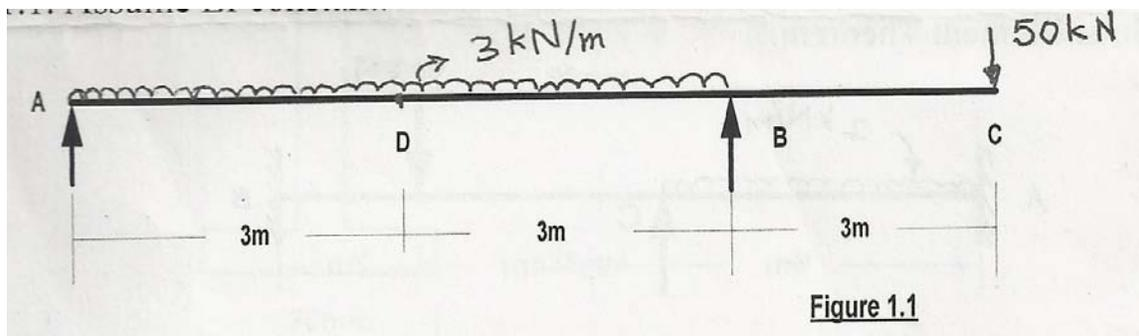

Figure 1.1
Q. No. 1 a) Explain relation between actual beam and conjugate beam. (4)
b) A simply supported beam of span 3 m is carrying a uniformly distributed load 10 kN/m. Find the values of maximum slope and deflation of the beam. Take modulus of rigidity of the beam as $10 \times 10^9 \text{ N.mm}^2$. The flexural rigidity is same through the span. Use Conjugate Beam Method. (7)
c) Determine deflection at point 'C' and 'D' for an overhanging beam ABC loaded as shown in Figure 1.1 Assume EI Constant. (7)